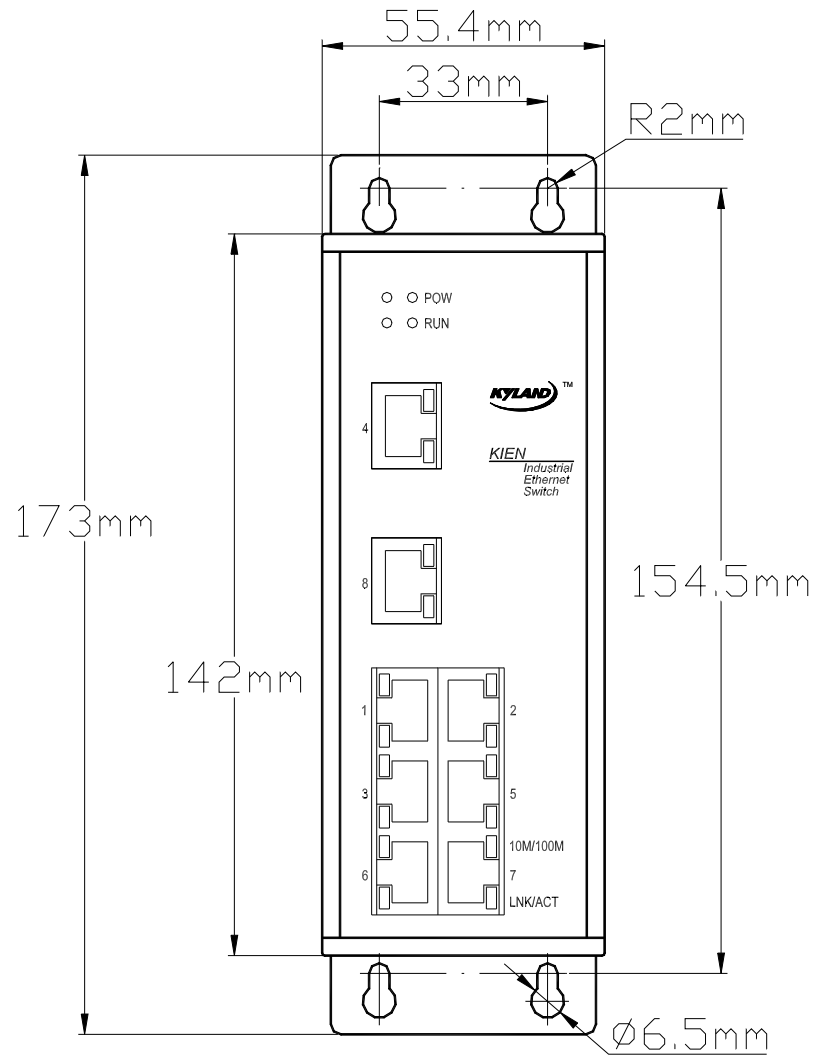

Figure 4-3 KIEN5000 wall-mounting dimensions
In some places, wall mounting may be more suitable than DIN rail mounting. KYLAND Telecom can provide the component (wall-mounting plate) for mounting KIEN5000 on wall. Wall-mounting dimensions are shown in Figure 4-3.
- 3 . Select mounting position: vertical wall or inner wall of cabinet. If you select to mount on vertical wall, you are recommended to use  $\Phi 6$  plastic expansion bolts and  $\Phi 3$  tapping screws for equipment mounting. According to the mounting dimensions marked in Figure 4-3, drill four  $\Phi 6$  holes with an impact drill on the wall (the depth of the holes should allow fully inserting the plastic expansion bolt), fully insert the plastic expansion bolts in the holes on the wall, screw down the tapping screws into the plastic expansion bolts with a cross head screwdriver but do not screw down thoroughly, reserve a distance of around 5 mm; if you select
to mount on the inner wall of cabinet, you are recommended to prepare four M3 threaded holes on the inner wall of cabinet when making the cabinet according to the mounting dimensions marked in Figure 4-3, or drill four  $\Phi 4$  holes with a hand-held electric drill on site, and screw down four M3×10 pan head screws with cross recess into the four holes with a cross head screwdriver (if the holes are not threaded inside, it is necessary to mount four M3 nuts on the back side). Do not screw down the screws thoroughly, reserve a distance of around 5 mm.